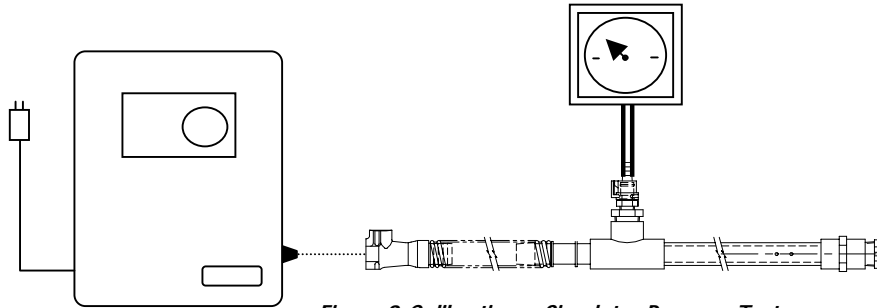

Figure 3 Calibration – Simulator Pressure Test
- 10.2.1 Connect the unit as shown in Figure 3 or Figure 5.